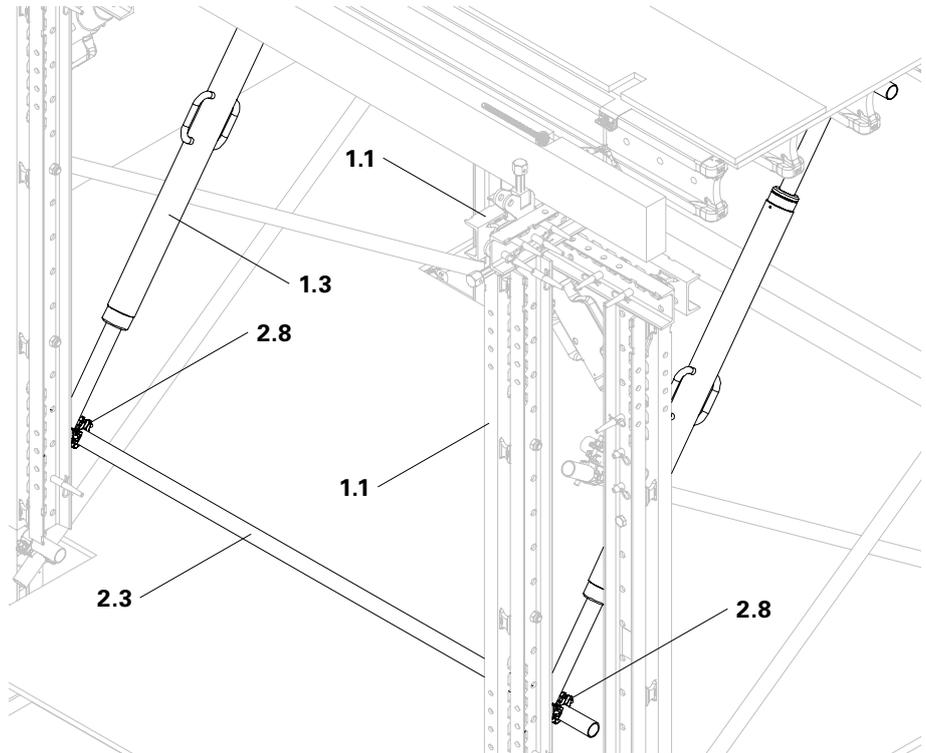

Fig. A6.05a
Mount the extended Heavy-Duty Spindles SLS (1.3) – the spindling length is specified in the general arrangement drawings – onto the two Steel Walers SRU U120 (1.1) using 2x Fitting Pins Ø 21 mm (1.4), and secure with cotter pins 4/1, galv. (Fig. A6.05a)
2. Horizontally mount 1 x Steel Scaffold Tube Ø 48.3 x 3.2 mm (2.3) to the top and bottom Standard Couplers NK 48/48 (2.8) respectively. Mount the extended Heavy-Duty Spindles SLS (1.3) – the spindling length is specified in the general arrangement drawings – onto the two Steel Walers SRU U120 (1.1) using 2x Fitting Pins Ø 21 mm (1.4) each, and secure with cotter pins 4/1, galv. 48.3 x 3.2 mm (2.3) to the top and bottom Standard Coupler NK 48/48 (2.8) respectively. (Fig. A6.05a)